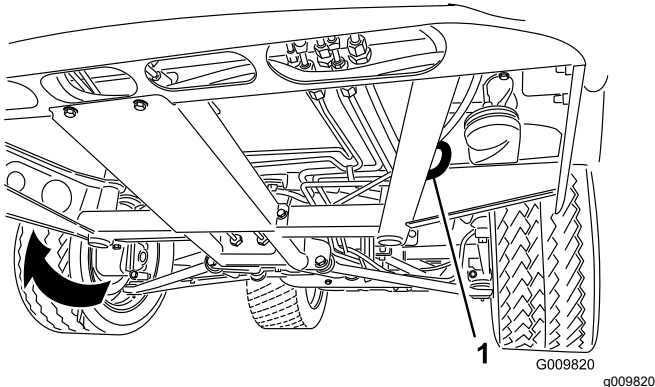
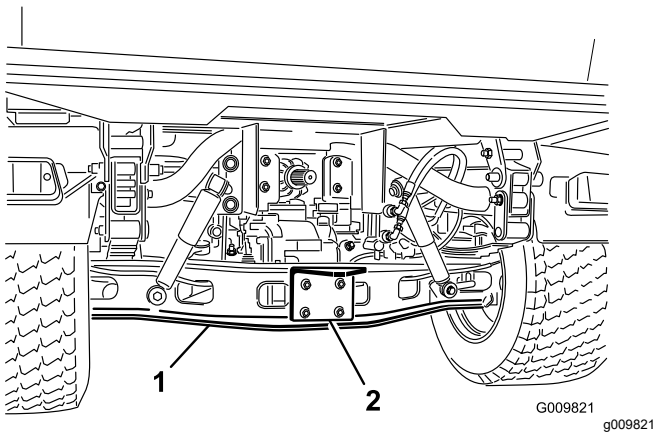

Figure 17
Figure 18
Refer to Figure 17 and Figure 18 for the tie-down locations on the machine.
1. Affix a tow line to the tongue at the front of the frame of the machine (Figure 17).